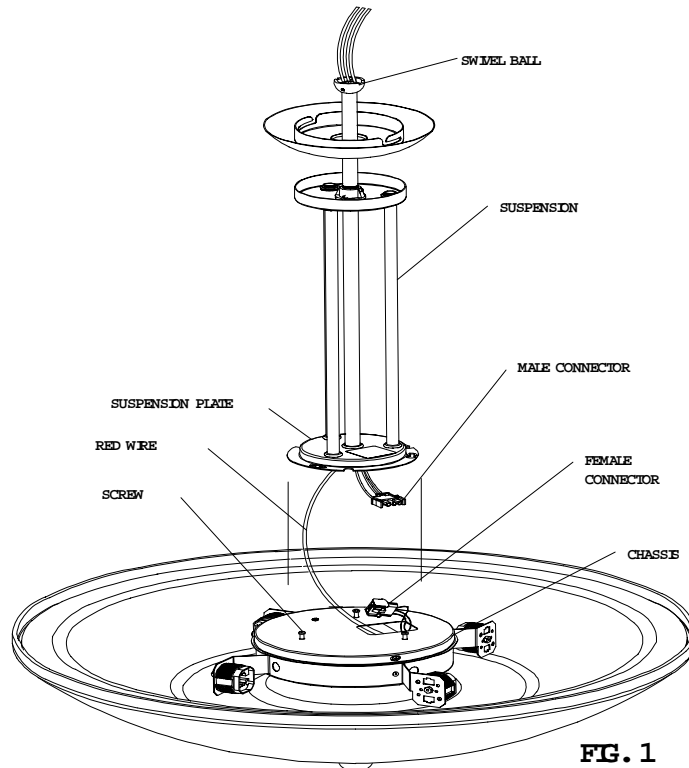

FIG. 1
INSTALLATION (Fig. 1):
1. If no extension kit is to be used; cut three wires (BLACK, WHITE and GREEN) no less than 6" above SWIVEL BALL. Strip back insulation from each wire approximately 3/8" from each end (Fig. 1).
2. If extension kit is not to be used, thread UPPER STEM into THREAD ADAPTOR until tight (Fig. 1).
4. Cut three wires (BLACK, WHITE and GREEN) no less than 6" above SWIVEL BALL. Strip back insulation from each wire approximately 3/8" from each end (Fig. 1).
4. Loosen three SCREWS on the top of CHASSIS as shown in fig. 1.
5. Position KEYSLOTS in SUSPENSION PLATE over three SCREWS on top of CHASSIS (Fig. 1).